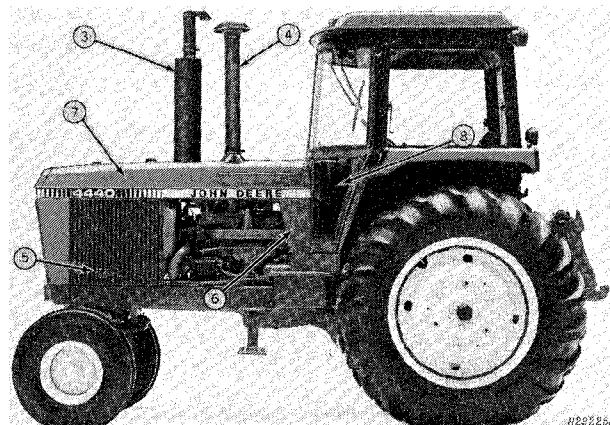

Fig. 2-Removing Muffler, Screens and Cowling
6. Remove left- and right-hand side shields (Fig. 2, p. 10-20-1).
7. Remove hood (Fig. 2, p. 10-20-1).